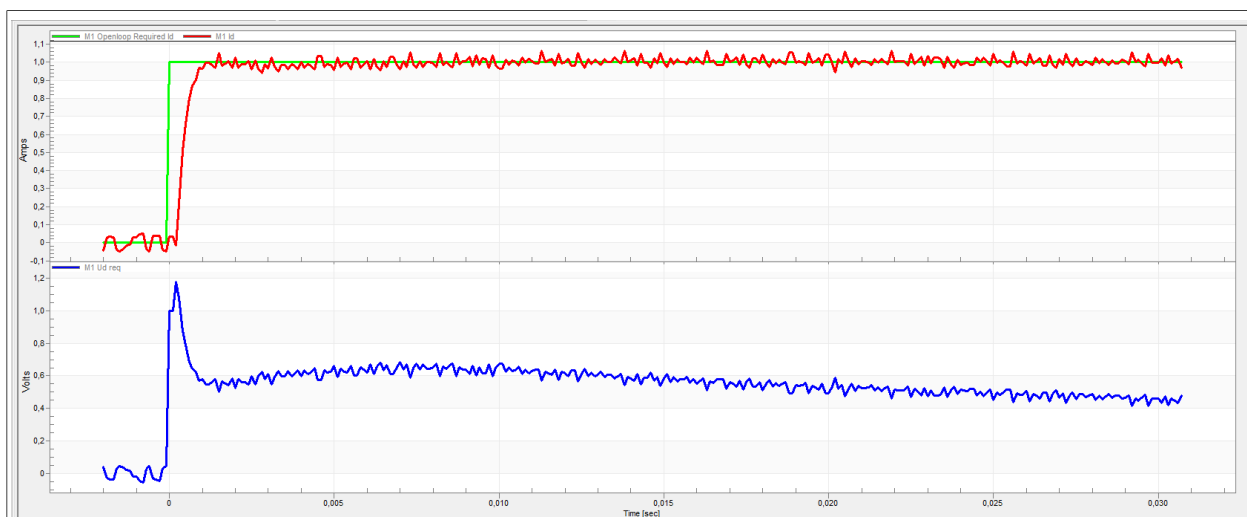

Figure 33. Optimal step response of the Id current controller
- The loop bandwidth (300 Hz) is optimal and the response time of the Id current is sufficient (Figure 33).